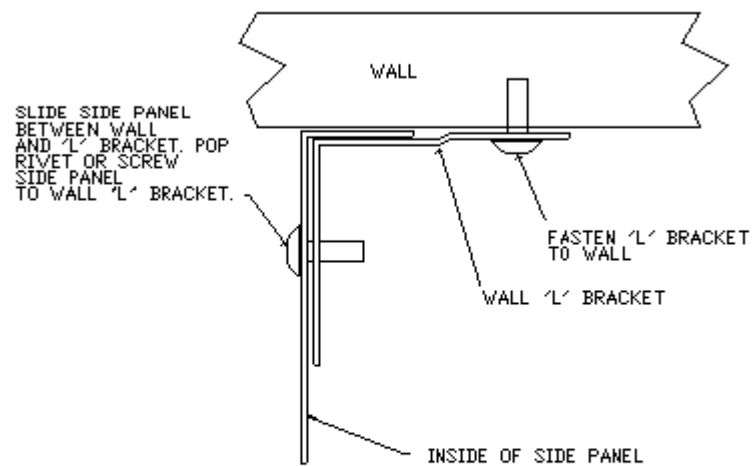

FIG. 2 WALL ANGLE
- B. Bolt the tops of the hoods together by sliding a threaded rod through the mounting angle slots and holes and fastening it into position by using nuts and washers as shown in figure 2.